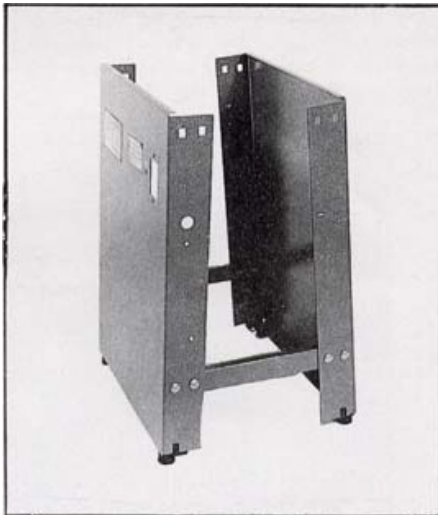

Fig.3
1. When starting to assemble the leg stand, fit the two stands (D) and two brackets (E) together as shown in Fig. 3. Screws and nuts are included in your package. Do not tighten the screws to begin with, but tighten them after completing the assembly.
2. Once you have finished with Fig.3, continue to Fig.4 and add the cover (F) to the stand and tighten all the screws.